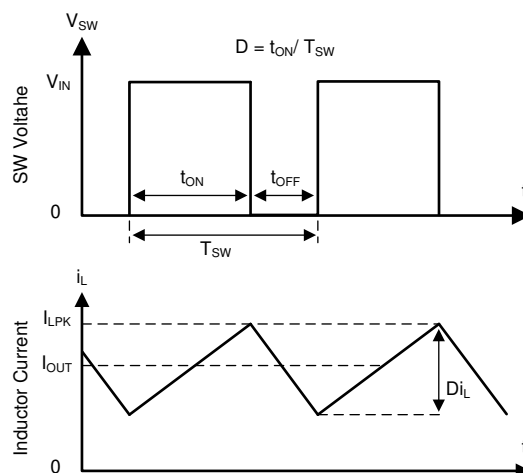

図 8-1. SW Node and Inductor Current Waveforms in Continuous Conduction Mode (CCM)
The following operation description of the LV3842 will refer to the セクション 8.2 and to the waveforms in 図 8-1. LV3842 is a step-down synchronous buck regulator with integrated high-side (HS) and low-side (LS) switches (synchronous rectifier). The LV3842 supplies a regulated output voltage by turning on the HS and LS NMOS switches with controlled duty cycle. During high-side switch ON time, the SW pin voltage swings up to approximately V_{IN} , and the inductor current i_L increases with linear slope $(V_{IN} - V_{OUT}) / L$. When the HS switch is turned off by the control logic, the LS switch is turned on after an anti-shoot-through dead time. Inductor current discharges through the low-side switch with a slope of $-V_{OUT} / L$. The control parameter of a buck converter is defined as Duty Cycle $D = t_{ON} / T_{SW}$, where t_{ON} is the high-side switch ON time and T_{SW} is the switching period. The regulator control loop maintains a constant output voltage by adjusting the duty cycle D . In an idea Buck converter, where losses are ignored, D is proportional to the output voltage and inversely proportional to the input voltage: $D = V_{OUT} / V_{IN}$.